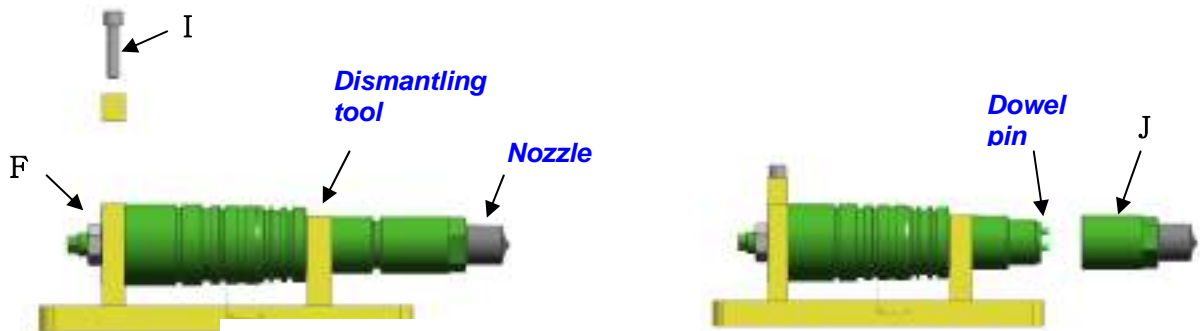
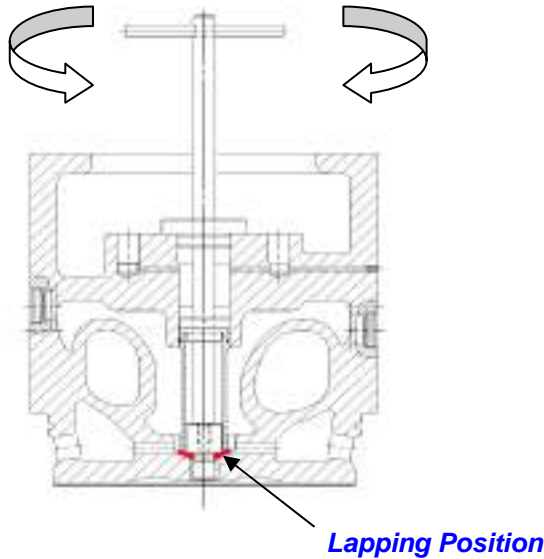
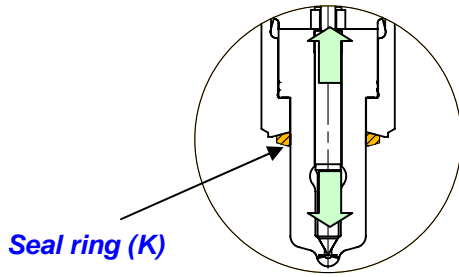

Fig.3 Dismantling of fuel valve nozzle(연료 분사 노즐 분해)
Fig.4 Position of The Fuel Injection Valve Lapping Tool
Fig.5 Seal ring(실 링)
- Insert fuel valve on the tool as fig.3.
- Fix fuel valve with bolt (I).
- Remove the sealing gasket(K)(refer to fig.4)
- Loosen the nozzle nut(J) with a torque spanner.
2. Insert fuel valve on the tool as fig.3.
3. Fix fuel valve with bolt (I).
4. Loosen the locking nut (F).
7. Tighten the nozzle nut(J) with a torque spanner. (with SW32 Deep impact socket)(refer to fig.5)
8. Install seal ring(K) on nozzle(refer to fig.5)
As shown in Fig.4, after coating with small amount of a fine lapping compound on seating surface, rub the surface by rotating the lapping tool manually several times in order to remove carbon and clean the bush before mounting the fuel injection valve on the cylinder head.